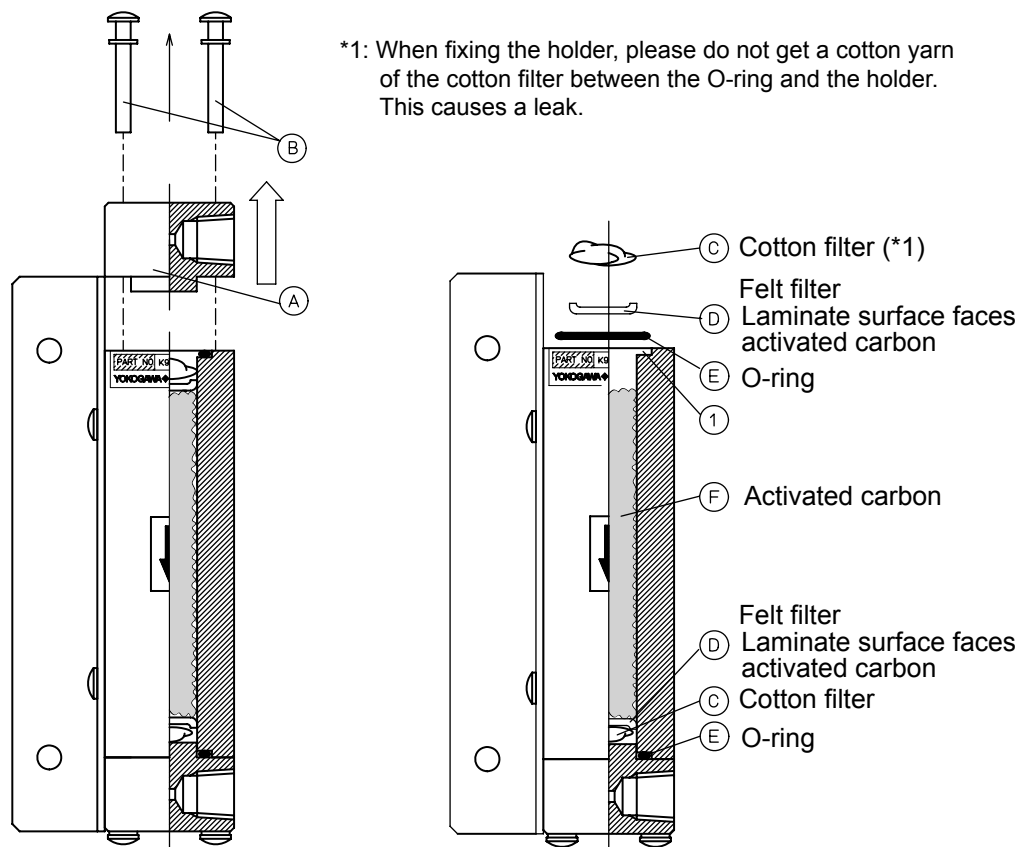

Figure 7.4 How to Replace Activated Carbon
- (1) Loosen the four screws with washers (B) of holder (A) and remove holder (A). (Figure 7.4)
- (2) Remove cotton filter (C), felt filter (D), and O-ring (E).
- (3) Dispose of activated carbon (F).